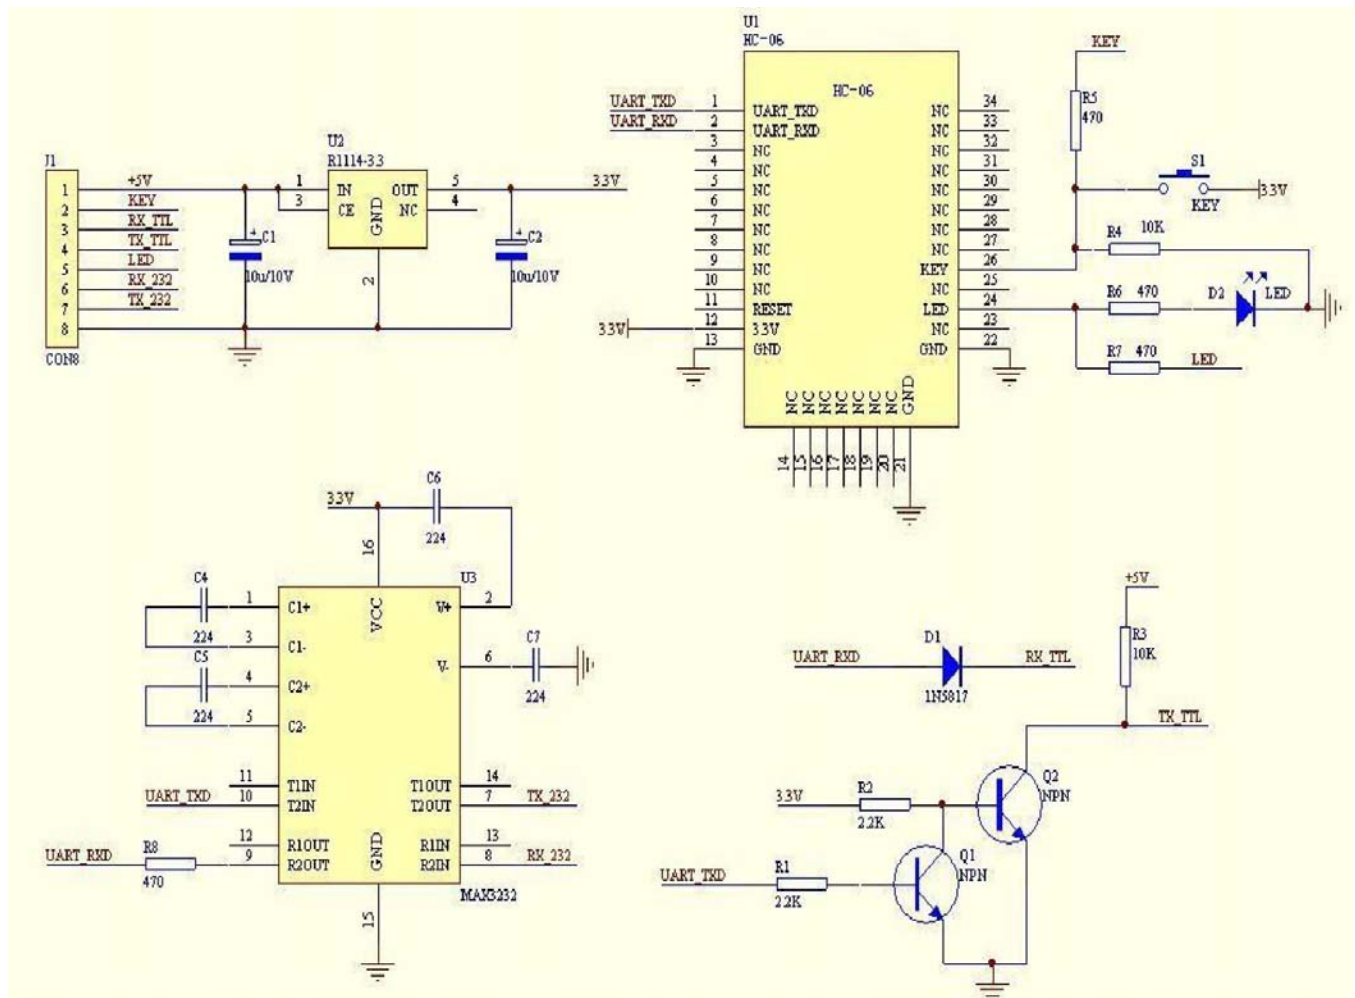

Figure 6 The circuit 2
(2) The circuit 2 (connect the module to 5V serial port of MCU) is showed by figure 6.
Figure 6 is the block diagram of Bluetooth baseboard. This kind of circuit can amplify Bluetooth module's operating voltage to 3.1-6.5V. In this diagram, the J1 port can not only be connected with MCU system of 3.3V and 5V, but also can be connected with computer serial port.